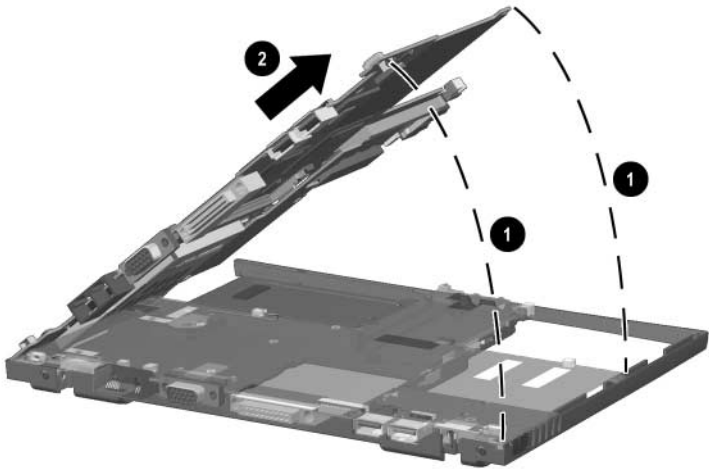

Figure 5-17. Removing the System Board
3. Lift up the right side of the system board ❶ until it rests at a 45-degree angle.
4. Slide the system board to the right at a 45-degree angle ❷ (Figure 5-17).